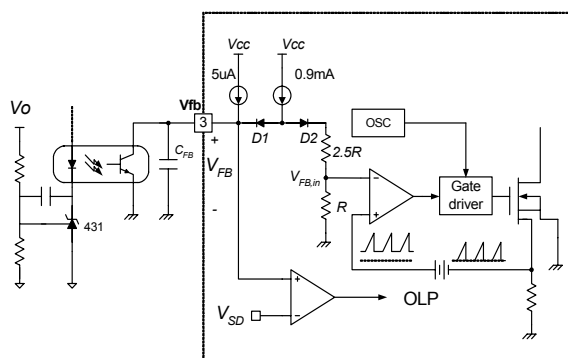

Figure 5. Pulse Width Modulation (PWM) Circuit
2. Feedback Control : The FSDx321 employs current mode control, as shown in Figure 5. An opto-coupler (such as the H11A817A) and shunt regulator (such as the KA431) are typically used to implement the feedback network. Comparing the feedback voltage with the voltage across the Rsense resistor plus an offset voltage makes it possible to control the switching duty cycle. When the KA431 reference pin voltage exceeds the internal reference voltage of 2.5V, the opto-coupler LED current increases, the feedback voltage Vfb is pulled down and it reduces the duty cycle. This event typically happens when the input voltage is increased or the output load is decreased.
4.4 Over Voltage Protection (OVP) : In the event of a malfunction in the secondary side feedback circuit, or an open feedback loop caused by a soldering defect, the current through the opto-coupler transistor becomes almost zero (refer to Figure 5). Then, V_FB climbs up in a similar manner to the over load situation, forcing the preset maximum current to be supplied to the SMPS until the over load protection is activated. Because excess energy is provided to the output, the output voltage may exceed the rated voltage before the over load protection is activated, resulting in the breakdown of the devices in the secondary side. In order to prevent this situation, an over voltage protection (OVP) circuit is employed. In general, V_{CC} is proportional to the output voltage and the FPS uses V_{CC} instead of directly monitoring the output voltage. If V_{CC} exceeds 19V, OVP circuit is activated resulting in termination of the switching operation. In order to avoid undesired activation of OVP during normal operation, V_{CC} should be properly designed to be below 19V.